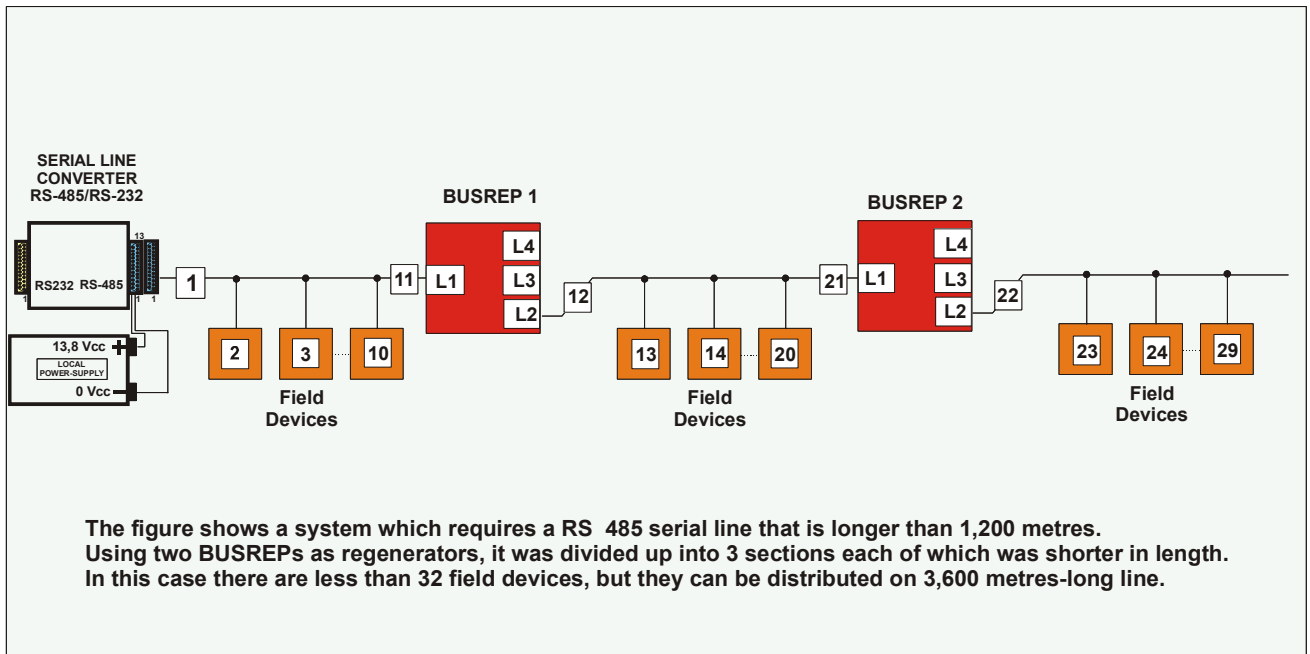

Fig. 11
For longer distances use one or more interface **regenerators** (BUS REP), see figure 11.
- mixed, stellar and BUS type, using Repeaters / Regenerators and interface multipliers (BUS REP), see figure 11.